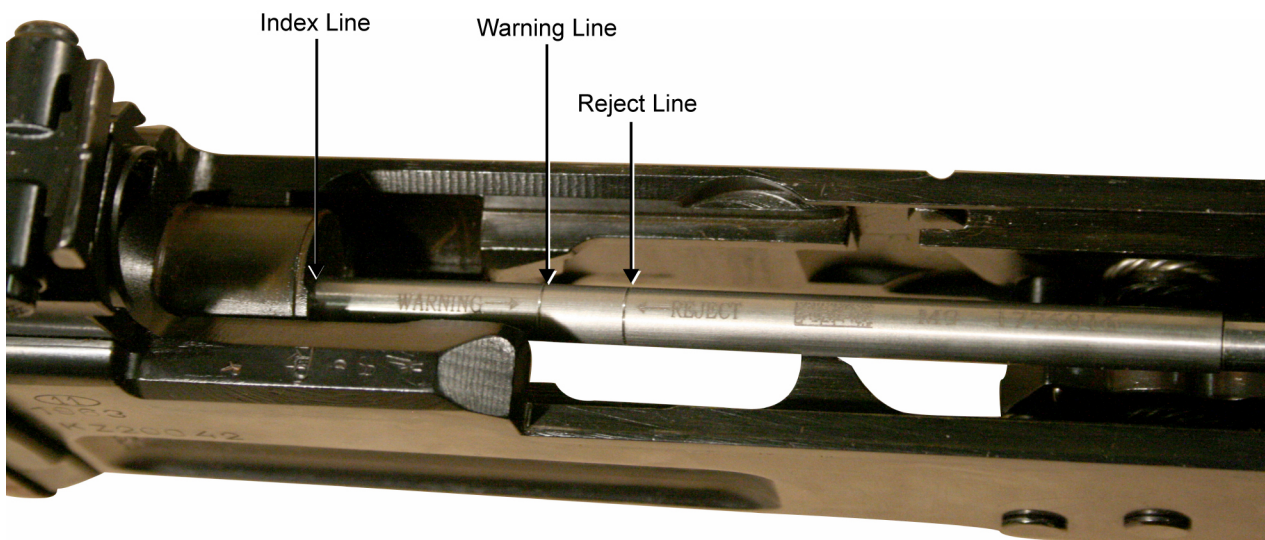

Figure 7. Bore Erosion Gage Warning and Reject Lines.
3. The first line of the bore erosion gage is the warning line. If the warning line of the bore erosion gage goes in past the index line, more frequent gaging should be conducted. Refer to Figure 7.
4. The second line of the bore erosion gage is the reject line. If the reject line of the bore erosion gage goes in past the index line, the barrel is defective and the weapon needs to be replaced. Refer to Figure 7.